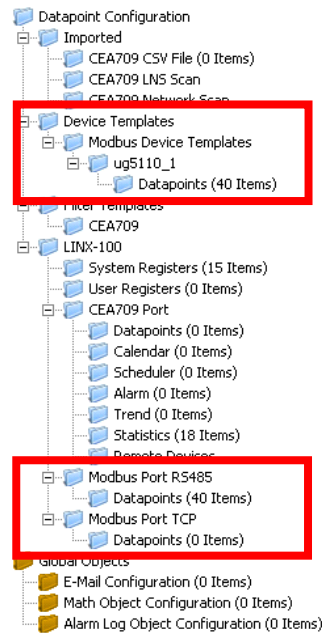

Figure 227: Data Point Manager Dialog with Modbus folder list.
- The folder list (Figure 227),